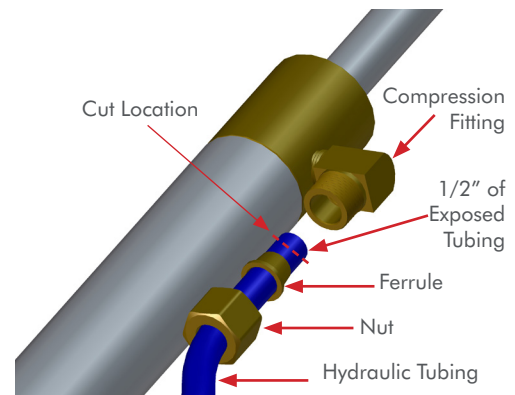

Figure 2
STEP 2 Remove the **Compression Fitting Nut** from the **Hydraulic Tubing** by cutting the Tubing squarely just behind the **Ferrule** with a razor blade. **FIG 2**